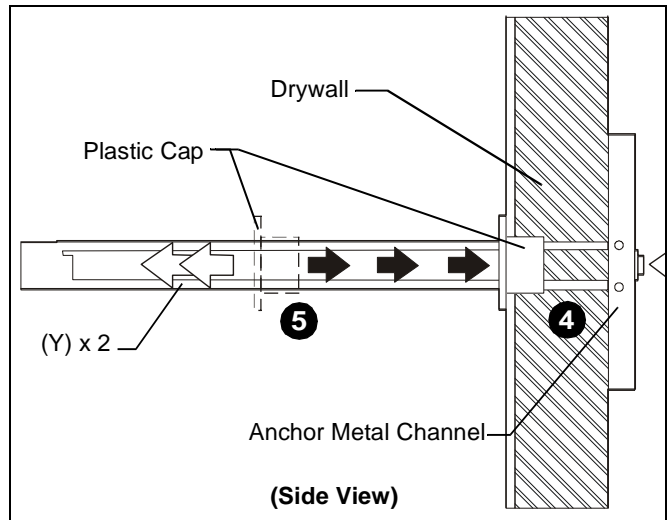

Figure 15
4. Holding plastic straps on anchor (Y), pull anchor away from wall until channel rests flush behind wall. (See Figure 15)
5. Slide plastic cap on anchor (Y) towards wall until flange of cap is flush with wall. (See Figure 15)